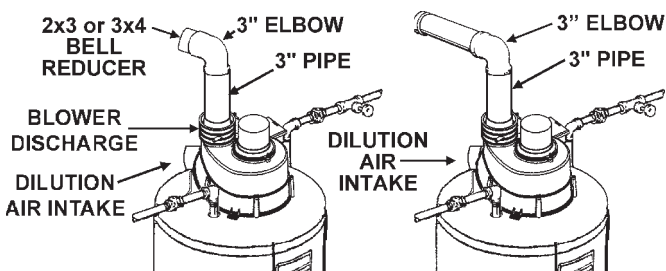

FIGURE 21.
3. Make sure there is no packing material in the discharge of the blower or the intake of the dilution air restrictor, see Figure 21.
Except where instructed in this manual, the mixing of 2", 3" and 4" vent pipe is NOT ALLOWED. If 2" pipe is to be used, then a 2" to 3" bell reducer is recommended. Figure 21 shows the recommended location for the bell reducer. If the bell reducer is located at the rubber boot on the blower assembly, then a short section of 3" vent pipe needs to be installed in the rubber boot for proper connection of the 2" to 3" bell reducer. That length can be the minimum length required for the connection.
If 4" pipe is to be used, then a 3" to 4" bell reducer is recommended. Figure 21 shows the recommended location for the bell reducer. If the bell reducer is located at the rubber boot on the blower assembly, then a short section of 3" vent pipe needs to be installed in the rubber boot for proper connection of the 3" to 4" bell reducer. That length can be the minimum length required for the connection.